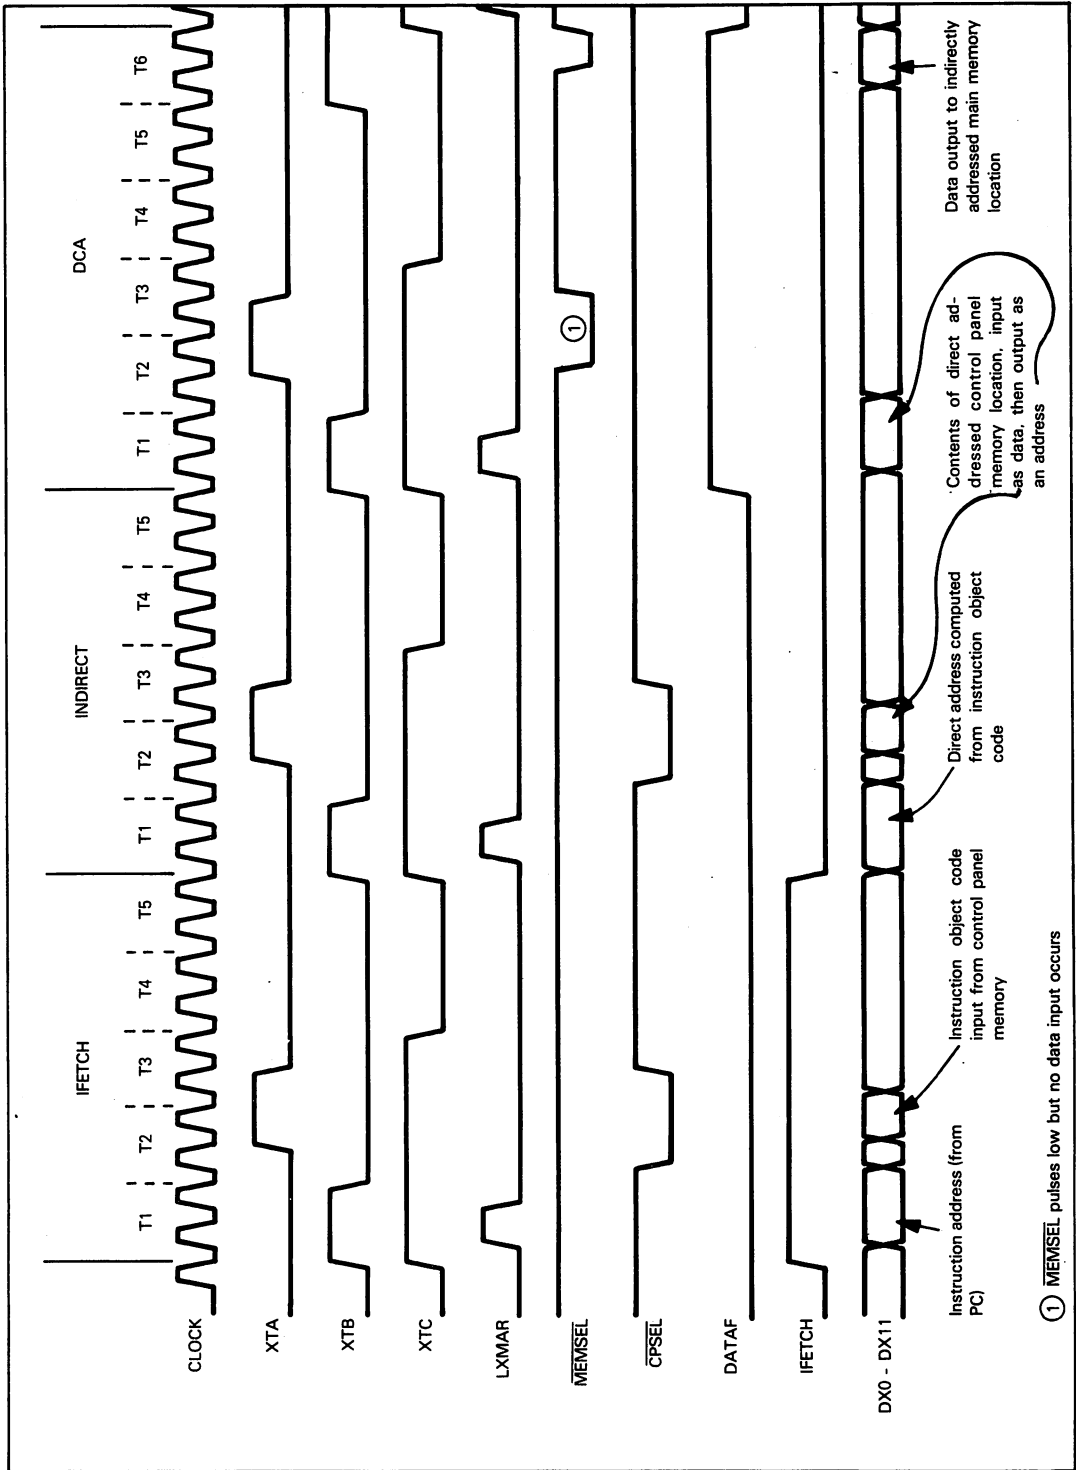

Figure 13-25. IM6100 DCA Instruction in Control Panel Memory — Timing with Indirect Addressing
**When an AND, TAD, ISZ or DCA instruction is executed within a control panel interrupt service routine, if indirect addressing is specified, then control panel memory is accessed for the direct addressing machine cycle; however, main memory is accessed for the indirect addressing machine cycle — that is, for the machine cycle during which DATAF is high. We can reproduce Figure 13-12 for execution of an indirect addressing DCA instruction within a control panel interrupt service routine, as shown in Figure 13-25.** Thus, you cannot indirectly address control panel memory. If you are going to indirectly access data within a control panel interrupt service routine, the address of the data can be held in control panel memory, but the data itself must be held in main memory.